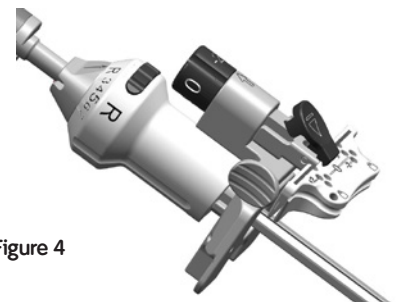

Figure 4
3. Attach the Distal Femoral Cutting block onto the Bridge. Positioning the block and the dial on the adjustable bridge at the primary (“0”) resection level will ensure the cut will equal the distal thickness of the femoral prosthesis (Figure 4).